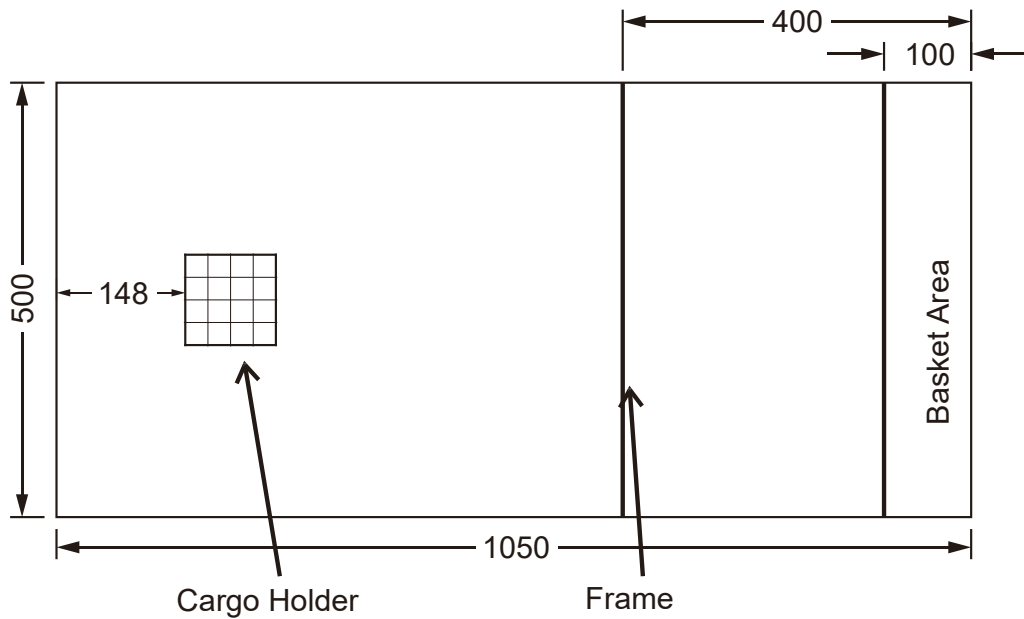

Figure 1: Tank Dimensions (in mm)
3.1. The game will be played in an shaped tank of dimension: 1050mm x 500mm x 500mm. See Figure 1 for details.
- 3.4. In the central area of the tank there shall be a cargo holder containing 16 objects arranged in a grid. This holder will be elevated from the tank floor by about 2 cm. See Figure 1 layout.